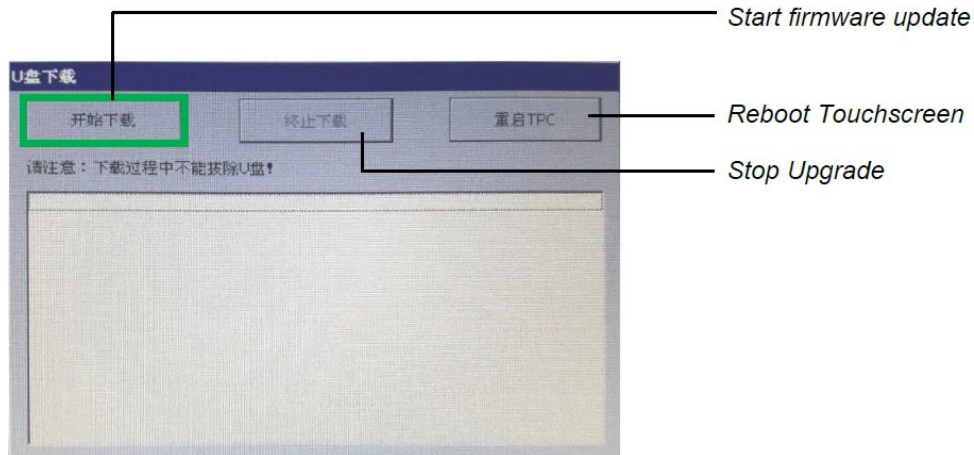

Figure 17
6. In the next window (fig.17), press the button in the upper left which reads ‘开始下载’ to begin the firmware update.